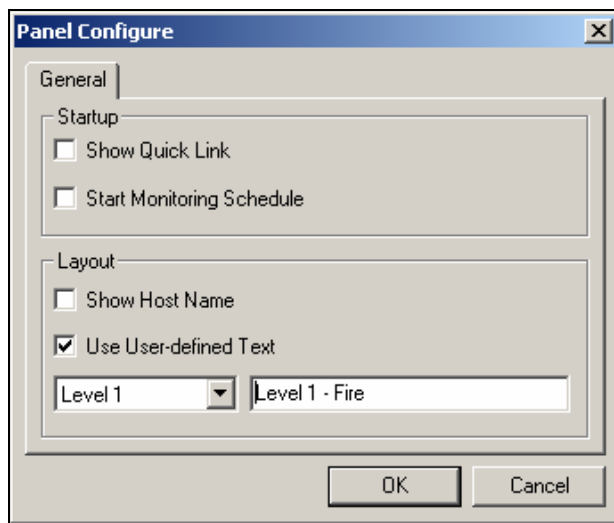

Figure 2-18
- To set the Quick Link window at panel startup, see the **Show Quick Link** option in Figure 2-18.